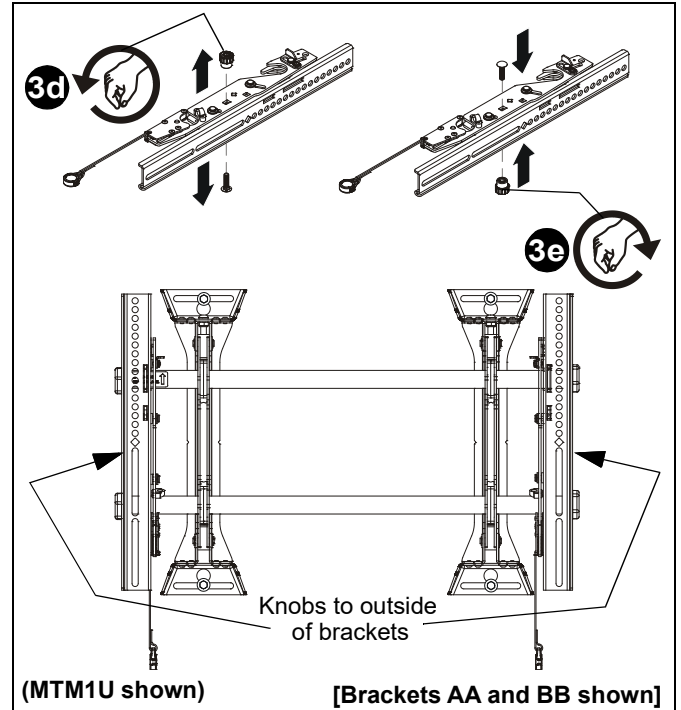

Figure 13
3. If necessary, the tilt interface bracket knobs may be switched to allow the interface brackets (AA and BB) to be reversed. (See Figure 13)